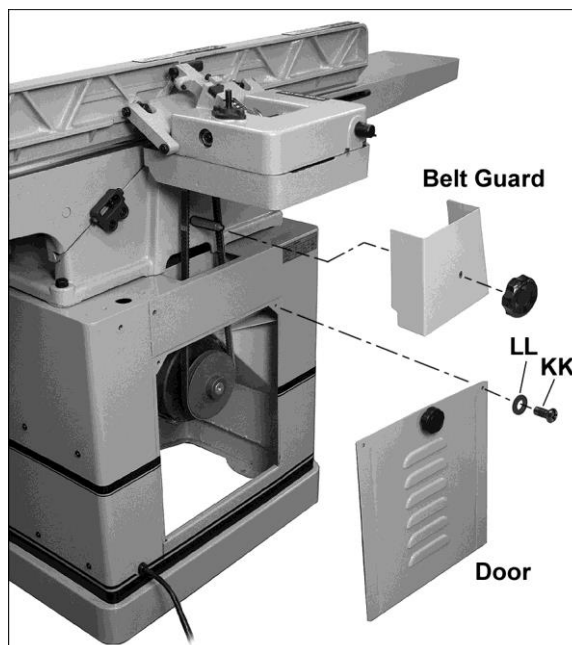

Figure 9
1. Remove the belt guard (shown in Figure 9).
Refer to Figure 9.